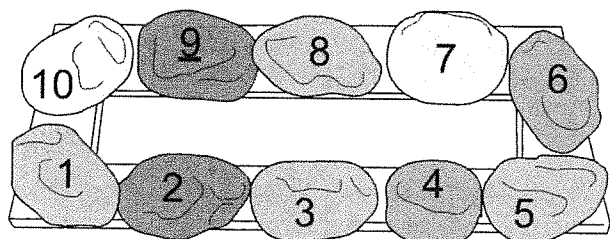

Figure 40. Beach Fire Rock layout.
2. The underside of each Rock is numbered 1-10. Set the rocks in the pockets of the Base Board in the sequence shown in fig. 40.